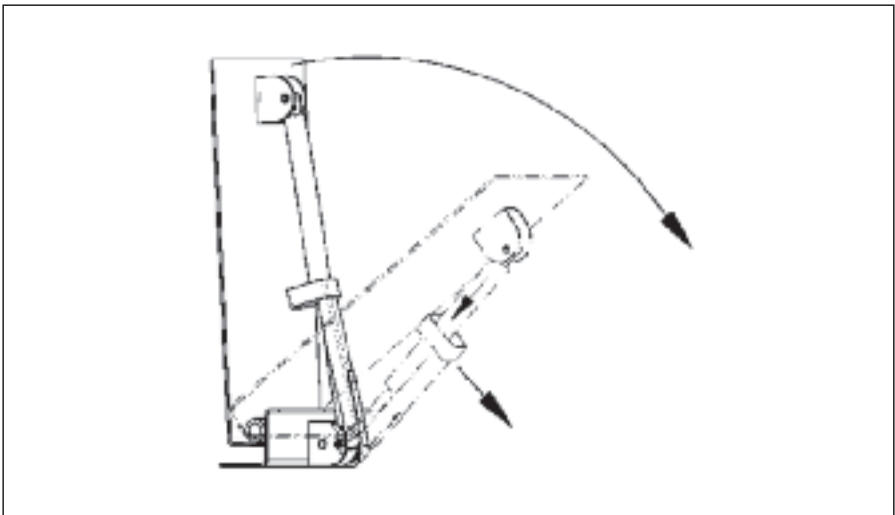

Fig. 1
3. Unlock the cover arrester as shown in fig. 1. **(Be careful when loosening the arrest to avoid the risk of crushing!)**
3. Unlock the cover arrester as shown in fig. 1. **(Be careful when loosening the arrest to avoid the risk of crushing!).**